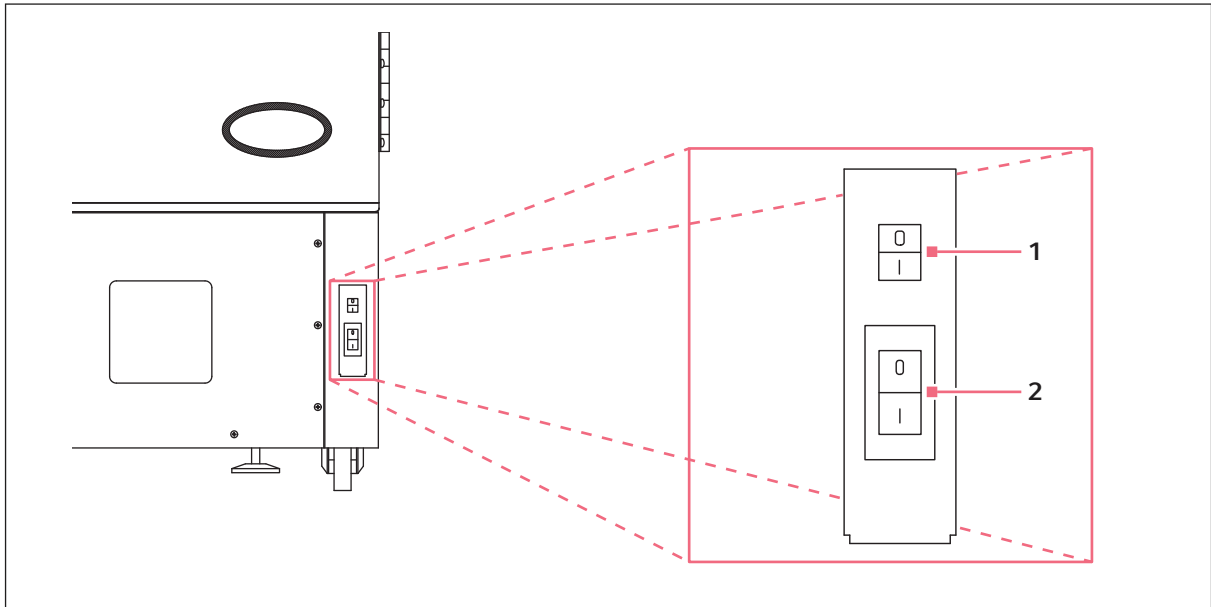
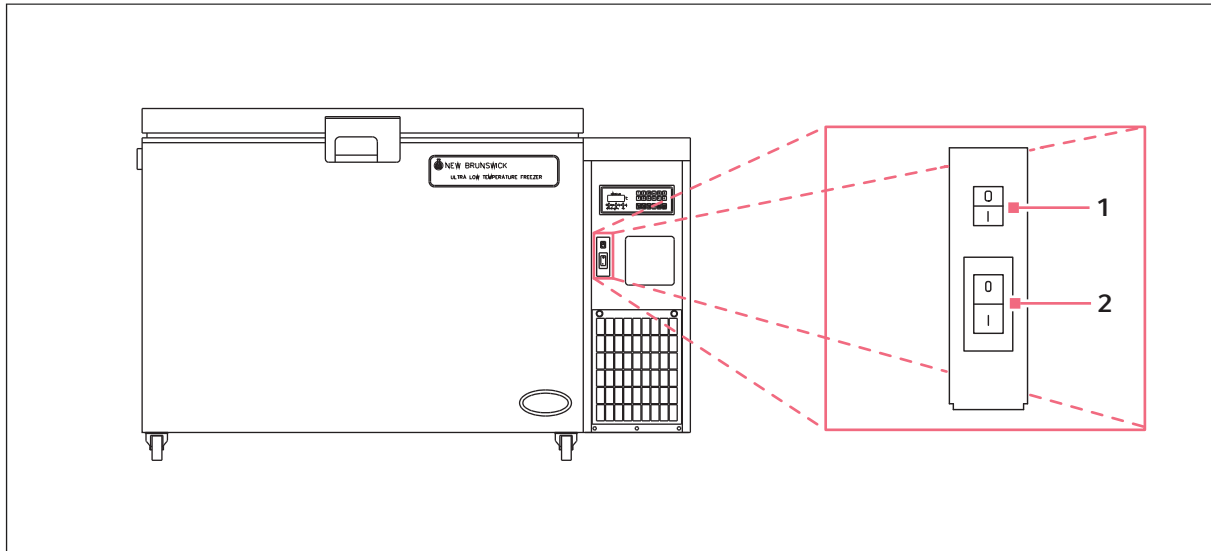

Fig. 6-1: Upright freezers switch location
Fig. 6-2: Chest freezers switch location
The equipment is delivered with the battery deactivated. The Power Fail alarm is activated by the battery rocker switch within the lockable panel, which is located at the bottom right-hand corner. The switch is labelled **I (ON)** and **O (OFF)** (see Fig. 6-1 on p. 32) and (Fig. 6-2 on p. 33).